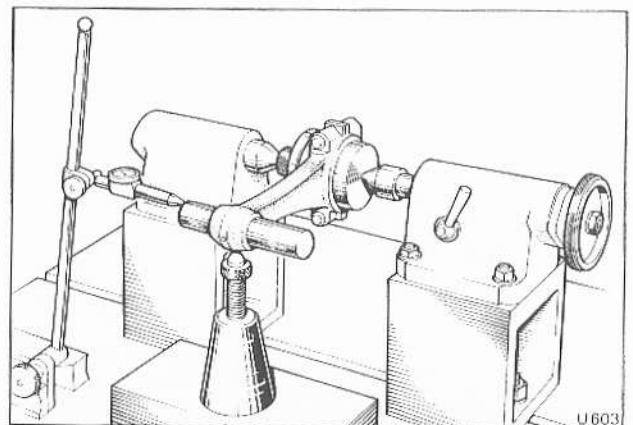

Fig. E6-4 Checking the connecting rod for twist
3. Mount the connecting rod on an inspection surface table as shown in figure E6-4.